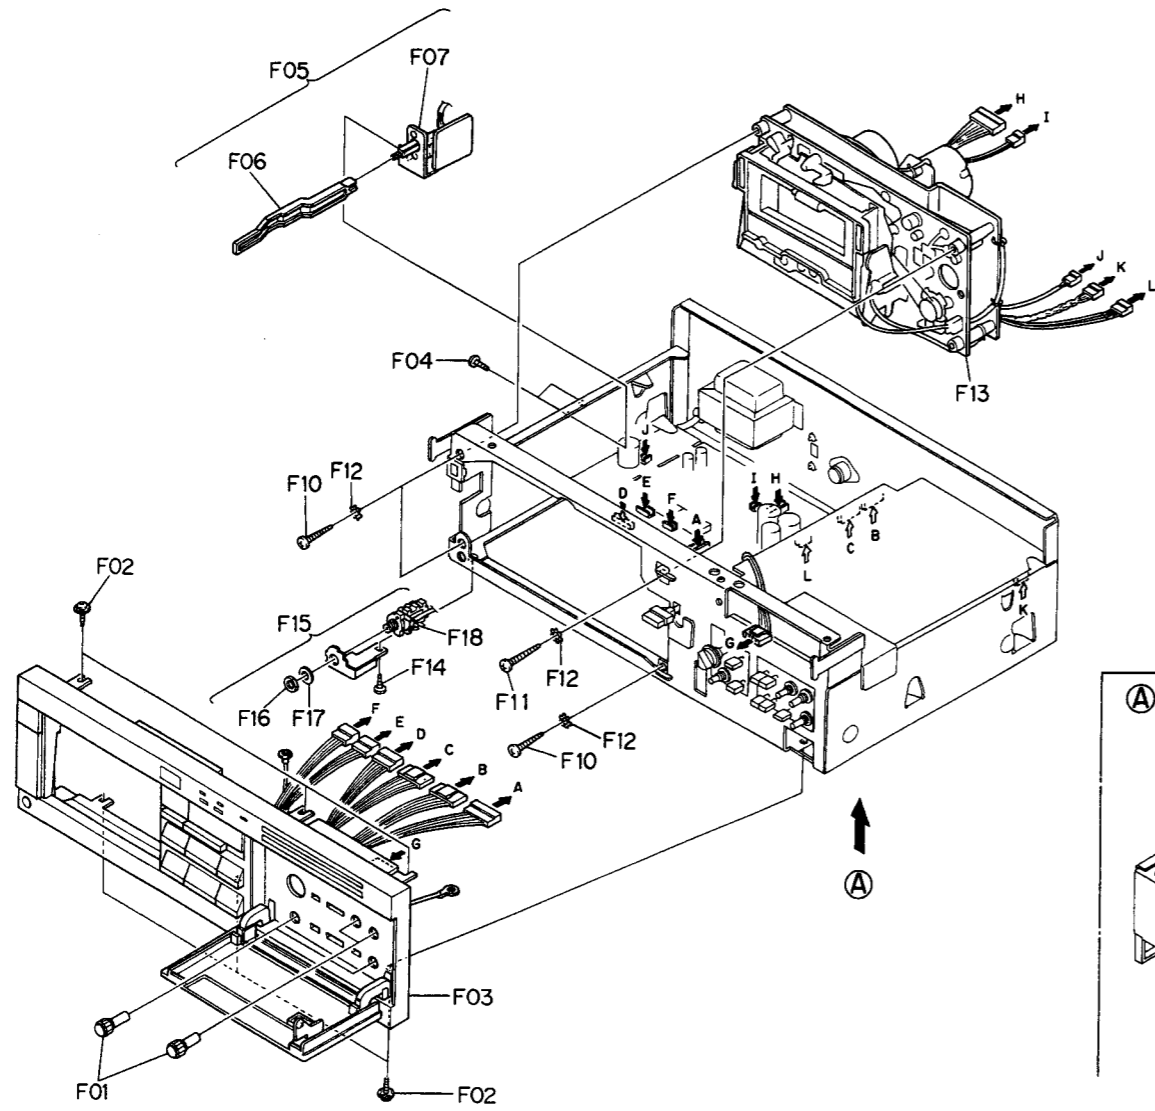

Fig. 2.2
Refer to Fig. 2.2.
- (1) Refer to Fig. 2.2. Remove Front Panel Ass'y referring to item 2.4.
- (2) Remove F05, then disassemble F06 (Amp. Shield Cover Plate).
- (3) Pull out F07 (Selector Knob) and F08 (Switch Knobs).
- (4) Remove F09 and F10, then disassemble F11 (Main P.C.B. Ass'y and Amp. Switch P.C.B. Ass'y).
- (5) Remove F12, F13 and F14, then disassemble F15 (Main P.C.B. Ass'y).
- (6) Remove F16, F17 and F18, then disassemble F19 (Amp. Switch P.C.B. Ass'y).
- (2) Remove F20, then disassemble F21 (Monitor Switch Shield Cover).
- (3) Remove F22 and F23, then disassemble F24 (Monitor Switch P.C.B. Ass'y).
- (2) Remove F01, then disassemble F02 (LED Level Indicator Ass'y).
- (3) Remove F03, then disassemble F04 (Indicator P.C.B. Ass'y).
- (4) Remove F05, then disassemble F06 (Control Switch P.C.B. Ass'y).
- (5) Remove F07 and F08, then disassemble F09 (Counter P.C.B. Ass'y).
- (6) Remove F10, then disassemble F11 (Counter-1 P.C.B. Ass'y and Counter-2 P.C.B. Ass'y).
- (7) Remove F12, then disassemble F13 (LED P.C.B. Ass'y).
- (1) Refer to Fig. 2.2. Remove Mechanism Ass'y referring to item 2.5.
- (2) Remove F01, then disassemble F02 (Cassette Case Plate Ass'y).
- (3) Remove F03 (Cassette Case Lamp) from Cassette Case Plate, then pull out F04 (Lamp P.C.B.) from F08 (Cassette Case Ass'y).
- (4) Push the Eject Button to open the Cassette Case Ass'y.
- (5) Remove F05 and F06, then disassemble F07 (Cassette Case Holder L Ass'y) by releasing the self-interlocking pin of Damper Lock Arm and F08 (Cassette Case Ass'y).
- (6) Remove F09, then disassemble F10 (Cover Plate Ass'y).
- (2) Remove F01, F02 and F03, then disassemble F04 (Flywheel Holder Ass'y) and F05 (Capstan Belt).
- (3) Remove F06, then disassemble F07 (Capstan Motor Ass'y).
- (4) Remove F08, then disassemble F09 (3P Lug Terminal).
- (5) Remove F10 (Supply Flywheel Ass'y), then disassemble F11 (Take-up Flywheel Ass'y).
- (6) After removing both Flywheel Assemblies, disassemble F12 (Thrust Washer 3mm), F13 (Thrust Washer 2.6mm), F14 (Flange Thrust Cap) and F15 (Flange Thrust Spring).